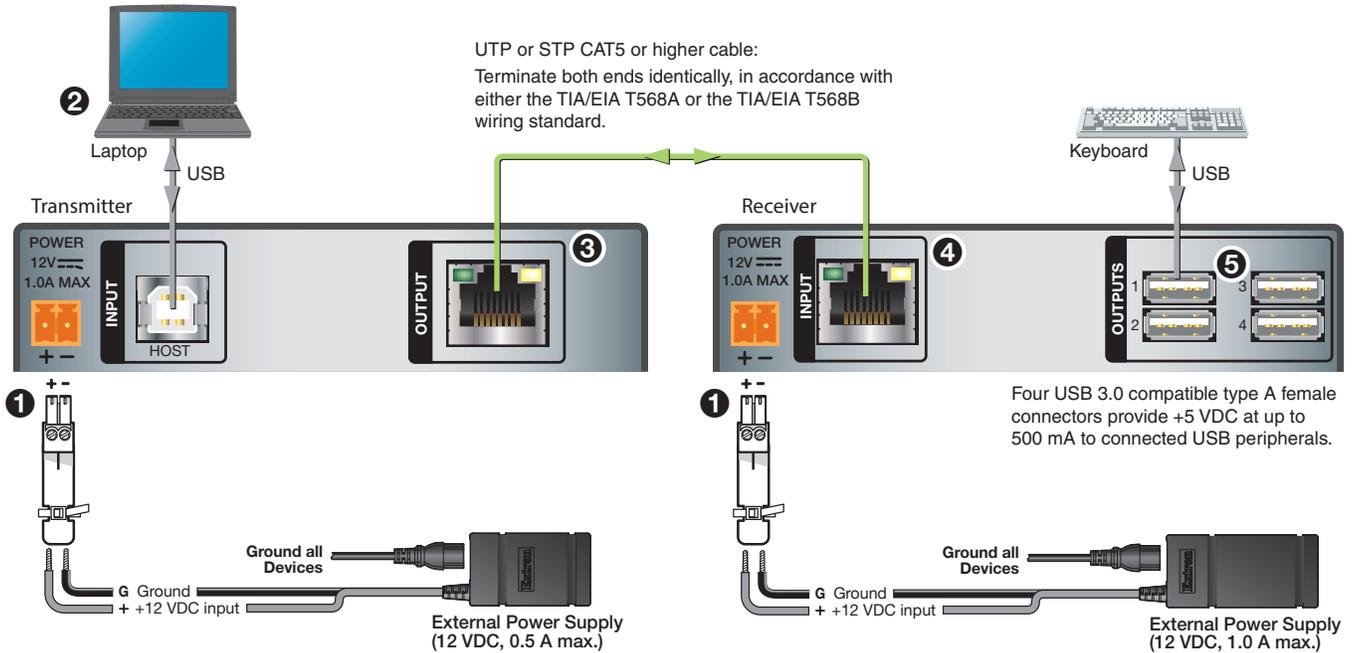

Figure 8. USB Extender Plus T-R Connection with Two External Power Supplies
Figure 8 shows connections for the USB Extenders Plus, rack-mountable models. The connectors are the same for the AAP and decorator-style models except that the USB Hub connectors are on the receiver front panels and are accessible after wall mounting.
To ensure proper operation, the transmitter, receiver, USB host, and USB peripherals must be connected properly and in the sequence described here (see figure 8).
2. Wire the two provided power supplies to the 2-pole captive screw connectors (see figure 8, 1) on the rear panels of the transmitter and of the receiver.
3. Connect a USB Type A-B cable from a USB port of the host computer to the transmitter Host port (see figure 8, ② on the previous page). Shortly after, the receiver Host LED (shown at right) starts blinking, indicating that communication between the USB and host has been established.